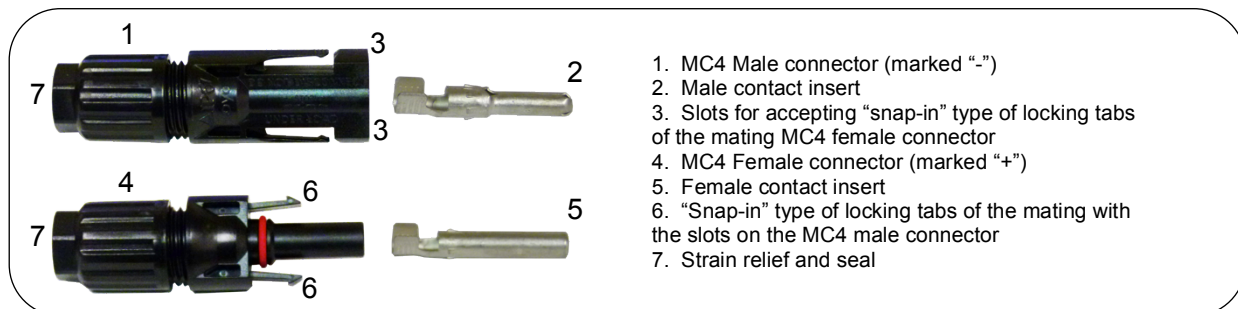

Fig.5.2. MC4 Male and Female Connectors
5.2. MC4 Connectors (Fig. 5.2)
In the MC4 Male Connector (No.1 of Fig. 5.2), the internal mating contact insert (No.2 of Fig. 5.2) is a male pin. It has two slots (No.3 of Fig. 5.2) for insertion of the two “snap-in” types of locking tabs (No.6 of Fig. 5.2) of the MC4 Female Connector (No.4 of Fig. 5.2) for firm mating connection. This connector is marked “-”.
In MC4 Female Connector (No.4 of Fig. 5.2), the internal mating contact insert (No.5 of Fig. 5.2) is a female cylindrical socket. It has two “snap-in” types of locking tabs (No.6 of Fig. 6.2) that are inserted into the two slots (No.3 of Fig. 5.2) in the MC4 Male Connector (No.1 of Fig. 5.2) for firm mating connection. Wire is crimped to the contact inserts (2 and 5 of Fig. 5.2) using a special purpose-crimping tool designed for MC4 connectors. After the wire has been crimped, the contact insert is required to be seated securely inside the housing and the strain relief/seal (No.7 of Fig. 5.2)